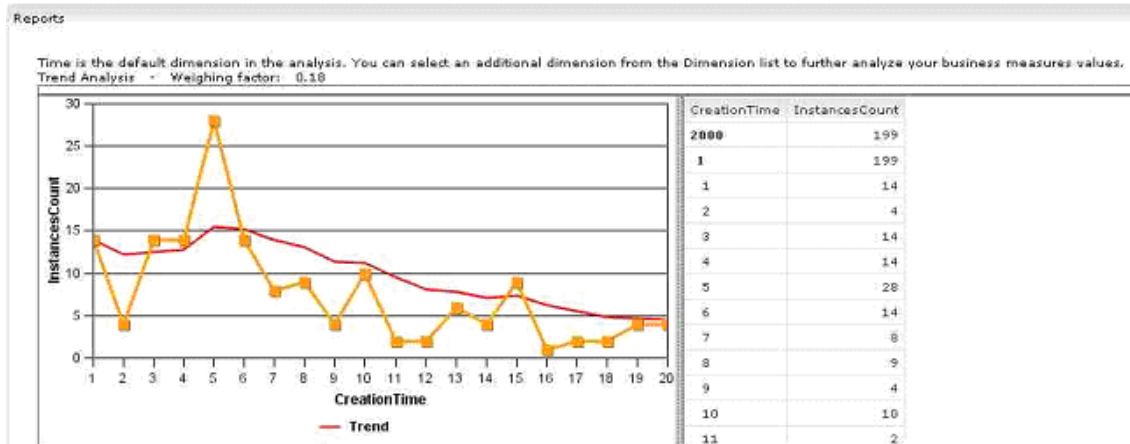

Figure 47 Trend Reports view
- **Trend:** This graph (Figure 47) displays the analysis of the changes in a KPI over a period of time using *Exponentially Weighted Moving Average* (EWMA). The EWMA is the average of historical values that are given weights (by a weighing factor), which exponentially decrease by time.